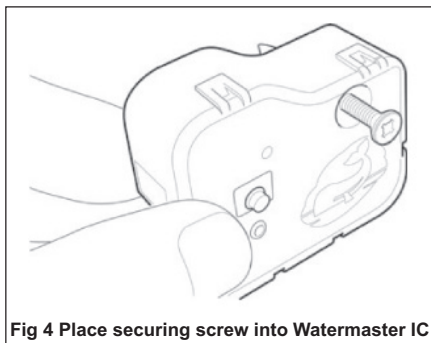

Fig 4 Place securing screw into Watermaster IC
Step 5 - Take Watermaster IC and place countersunk screw into screw holes (see Fig 4)